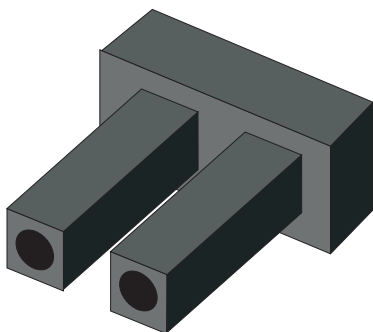

Figure 6 Fiber-Optic protective plug
- **Fiber-optic protective plug**—For safety and port transceiver protection, fiber-optic protective plugs (Figure 6), must be inserted in all director ports without fiber-optic cables attached. The director is shipped with protective plugs installed in all ports.